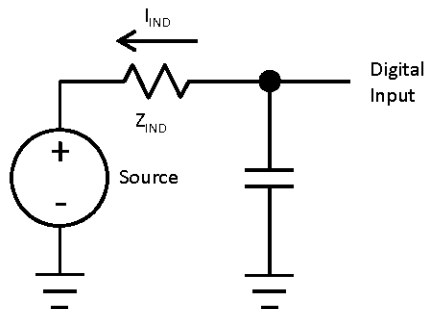

Figure 2. 5 V Tolerant Input IIND Parameter
5. Examples calculated using VIL relation, VDD, and max IIND: ZIND=VIL/IIND. This is the impedance needed to pull a high signal to a level below VIL due to leakage when VIL < VIN < VDD. These examples assume signal source low = 0 V. See Figure 2.